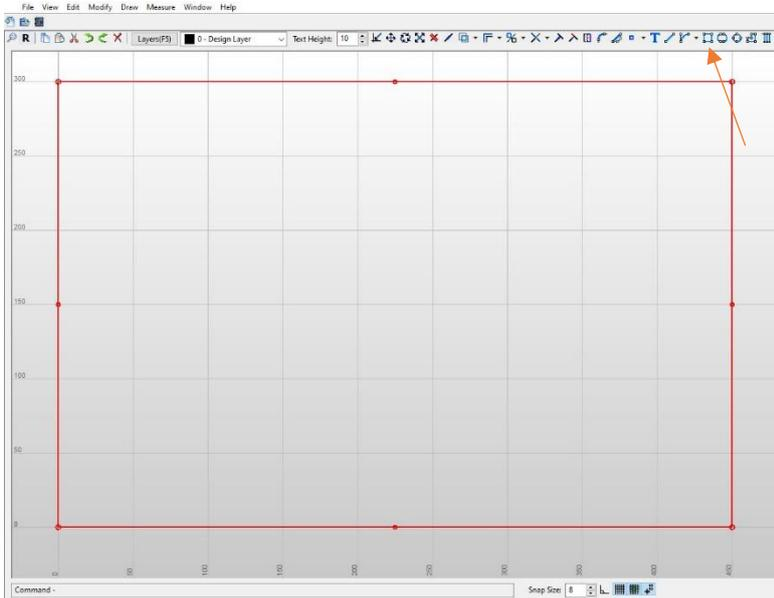

Figure 421
- RECTANGLE:** Draw a rectangle  on layer 3 with a length of 450mm and a height of 300mm with its start point on the origin (Figure 421). This rectangle represents the outer boundary of our foam insert.